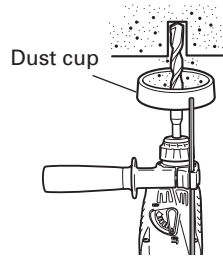
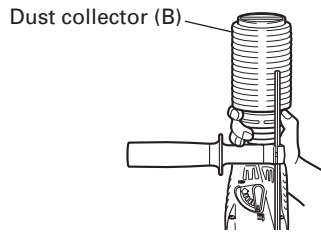

Fig. 4
Fig. 5
7. Installation of dust cup or dust collector (B) (Optional accessories) (Fig. 4, Fig. 5)
Use the dust cup by attaching to the drill bit as shown in Fig. 4.
- Installing dust collector (B)
When using dust collector (B), insert dust collector (B) from the tip of the bit by aligning it to the groove on the grip (Fig. 5)